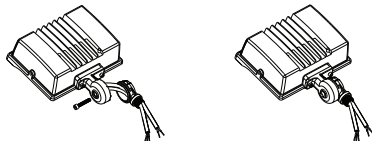

Fig. 2
- 3.) Loosen the screw in the center of the mounting bracket and adjust it to the desired angle. Retighten the screw (**Fig. 2**).